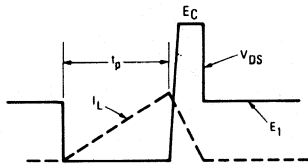

Fig. 15 - Clamped Inductive Waveforms
3. $V_{DD} = 20\text{V}$, starting $T_J = +25^\circ\text{C}$, $L = 112.7\text{mH}$, $R_{GS} = 50\Omega$, $I_{PEAK} = 2.2\text{A}$. See Figure 15.
3. V_{DD} = 20V, starting T_J = +25 $^\circ\text{C}$, L = 112.7mH, R_{GS} = 50 Ω , I_{PEAK} = 2.2A. (See Figure 15.)